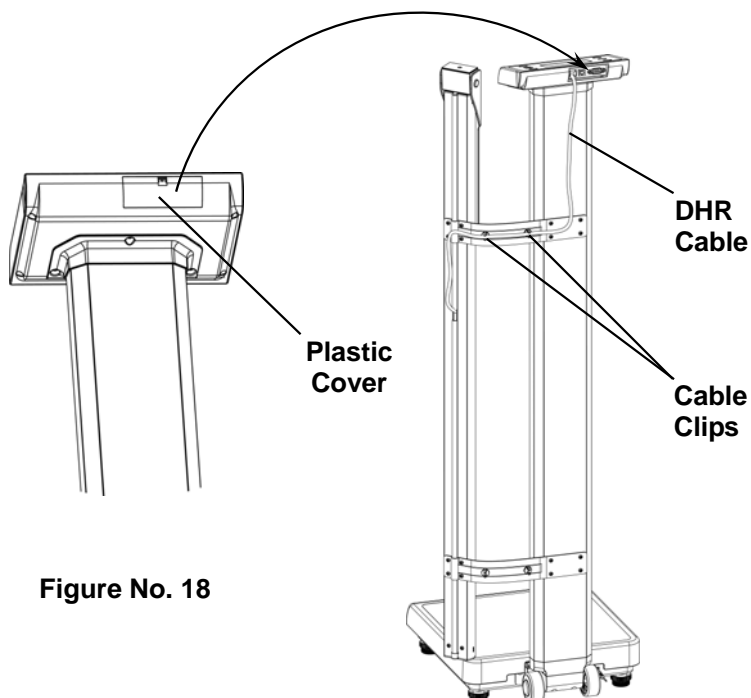

Figure No. 18
4. Remove the plastic cover on the back of the display exposing the modular connector socket. Insert the modular connector of the DHR cable into the socket on the display until it locks in place. (It will click when locked in place). Route the DHR cable through the two (2) plastic cable clips on the upper bracket. See Figure No. 18